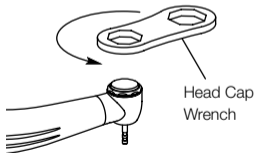

Fig. 5
(1) Removing Cartridge
- ① Install the turbine head on the test bur.
- ② Fit the head cap wrench onto the head and remove the head cap. (Fig. 5)
- ③ Remove the head cap, and remove the cartridge by pushing up on the test bur.